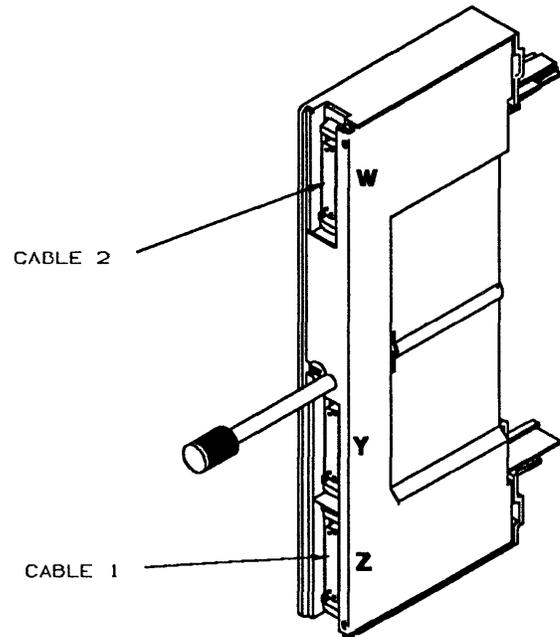

Figure 4-49. DMUX
5. Refer to Figure 4-49 on page 4-37, note the DMUX cable(s) location(s) then remove them.